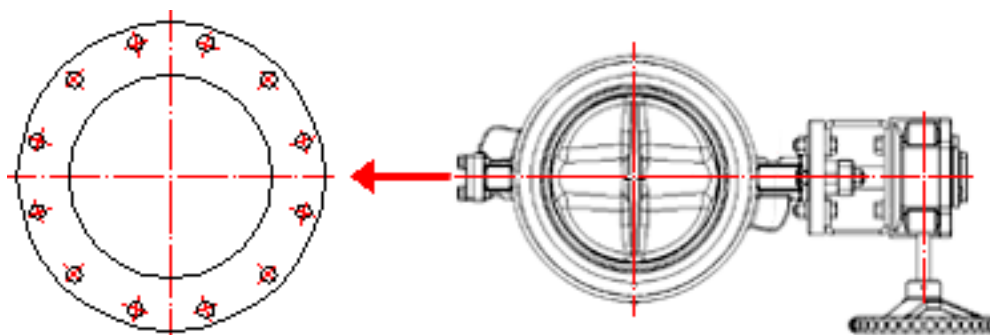

Fig.4
- 7.4. Please install the valve stem horizontally as (Fig.4), thus could prevent sand and some chips collect around bottom bushing and seat and damage the valve.